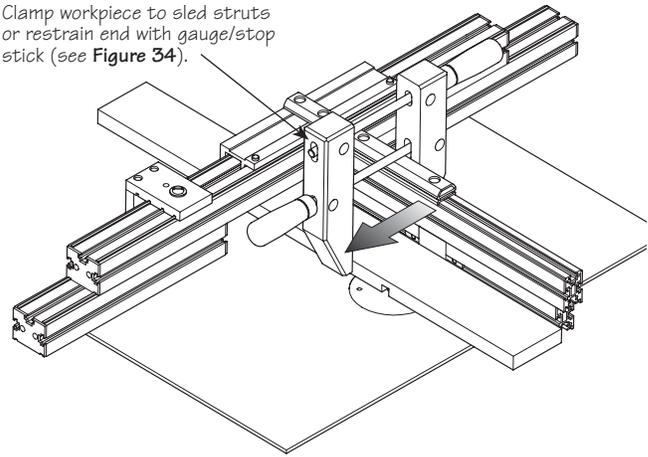

Figure 9: Cross routing.
4. Pass a test piece through the gap in the fence, clamp it against the sled and push the test piece through the rotating bit (see **Figure 9**). Check for proper depth of cut, making any necessary adjustments.